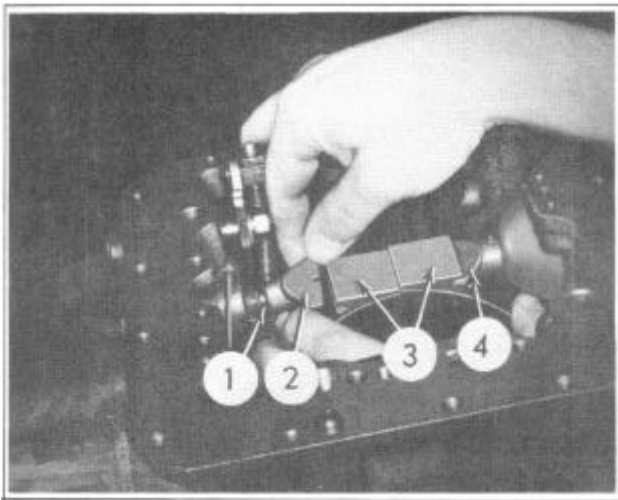

FIGURE 130
3. Pull the forward servo band shoe (3), Figure 130, away from the adjustment screw (1); disengage the pin from the notch in the strut and remove the strut from the end of the adjustment screw. Disengage the other end of the band from the piston strut (4), lift the band out of the band guide and move the band to the rear of the transmission case.